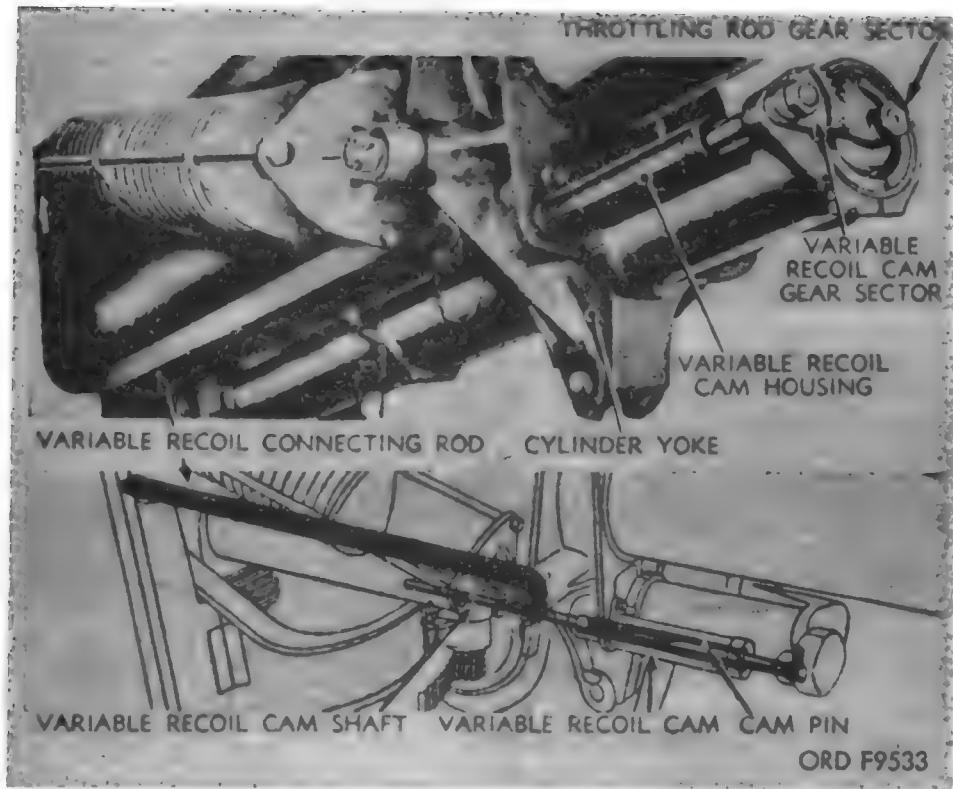

Figure 128. Variable recoil cam—assembled and phantom views.
- (d) The throttling rod is turned by the throttling rod gear sector (fig. 128) at its front end, which meshes with a similar sector actuated by the variable recoil cam ((2)(b) below).